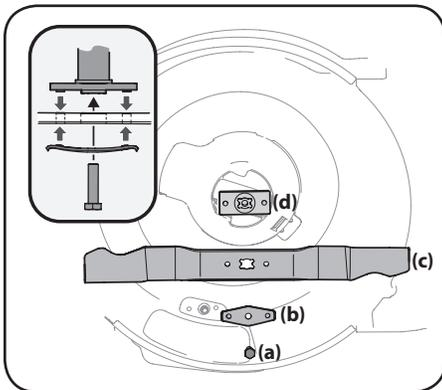

Figure 4-3
3. Remove bolt (a) and blade bell support (b) which hold the blade and the blade adapter to the engine crankshaft. See Figure 4-3.
4. Remove blade (c) and adapter (d) from the crankshaft. See Figure 4-3.